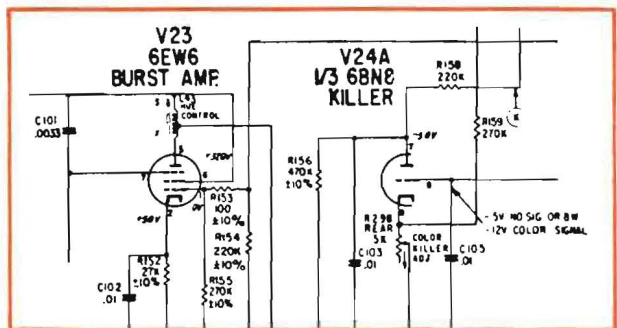

Figure 2
A. The burst gate stage functions much like a gated AGC tube—it is triggered by horizontal pulses and by color (burst) pulses. Both have to be present at the right amplitude in order to work properly. For example—let's say the complaint is "no color." Referring to the schematic figure 2, the service notes call for 30V p-p of horizontal pulse and 10V p-p of 3.58 MC pulse at the grid of the 6EW6. Let's say you find the 30V horizontal pulse measures OK but the burst level measures only 0.5 volts. Thus, you **immediately localize** the trouble.